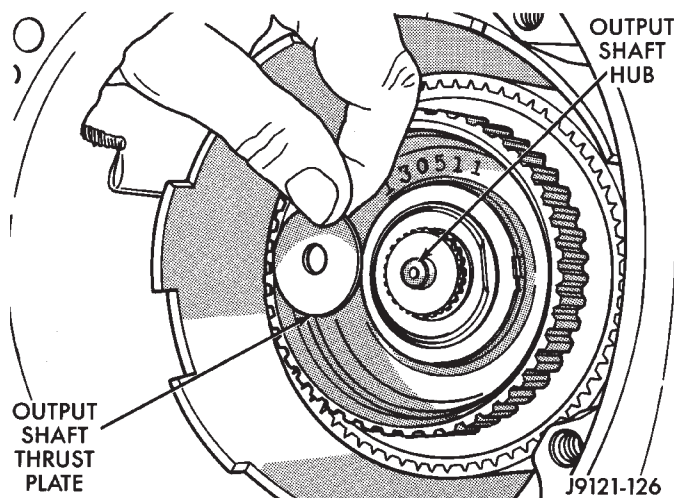
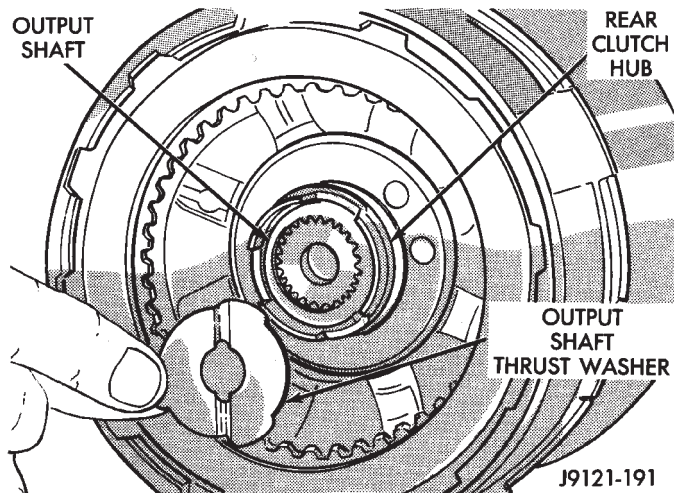

Fig. 99 Output Shaft Thrust Plate
Fig. 101 Output Shaft Thrust Washer
(26) Install output shaft thrust plate on shaft hub in planetary geartrain driving shell (Fig. 99). Use petroleum jelly to hold thrust plate in place.
(27) Check rear clutch thrust washer. Use additional petroleum jelly to hold washer in place if necessary.
(28) Coat output shaft thrust washer with petroleum jelly. Install washer in rear clutch hub (Fig. 101). Use enough petroleum jelly to hold washer in place. **Be sure grooved side of washer faces rearward (toward output shaft) as shown. Also note that washer only fits one way in clutch hub.**